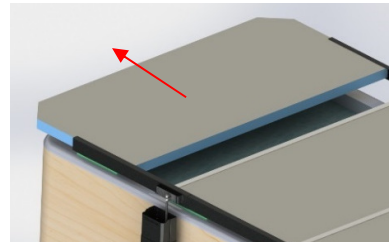

Figure 8
8. Remove the end panel. Put it in a safe place. If you have a 16' to 20', you will have to remove the two panels and the I-beam (Figure 8).